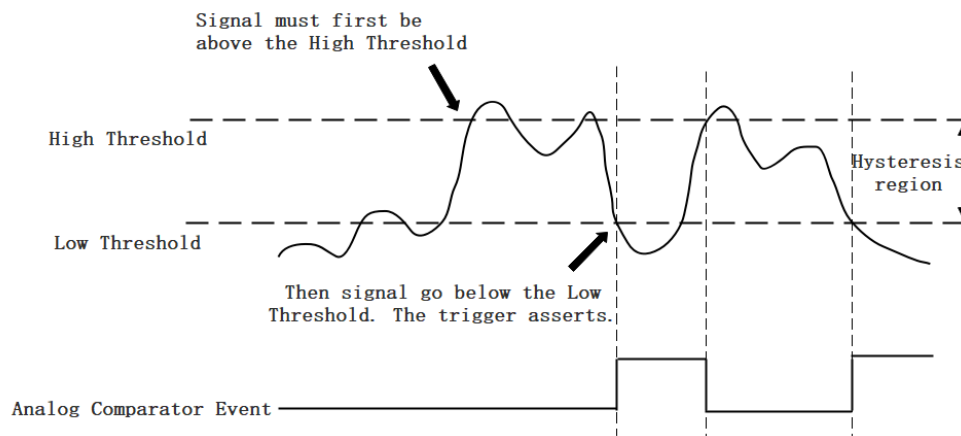

Figure 19 Hysteresis with Falling Slope Trigger
*Hysteresis with Falling Slope Trigger:* The Hysteresis comparator output is high when the signal must first be above the high threshold, then goes below the low threshold. The output will change to low when the signal goes above the high threshold as shown in Figure 19.